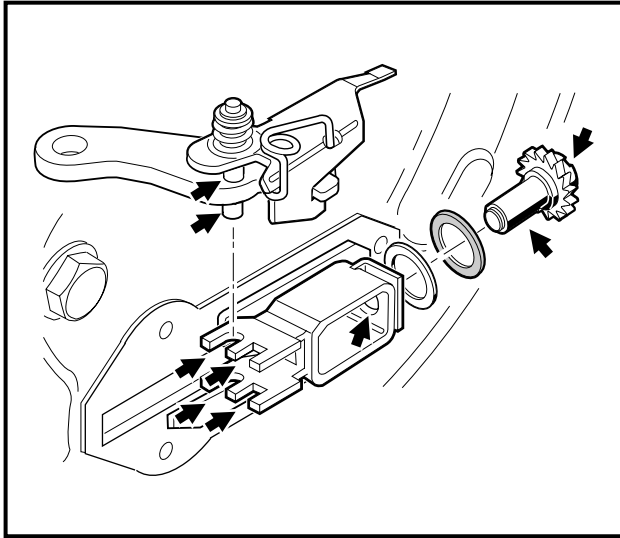

Figure 6-11 Lubricate Adjuster
6. Use a small brush to carefully apply a light coat of white lithium NLGI #2 grease (Dow Corning BR2-Plus or equivalent) to the brake adjuster assembly, adjuster wheel shoe slots, and the shaft of the adjuster wheel as shown (Figure 6-11, Page 6-7). See **WARNING** on page 6-6.
7. Install the adjuster wheel and two washers into the adjuster assembly (Figure 6-11, Page 6-7).